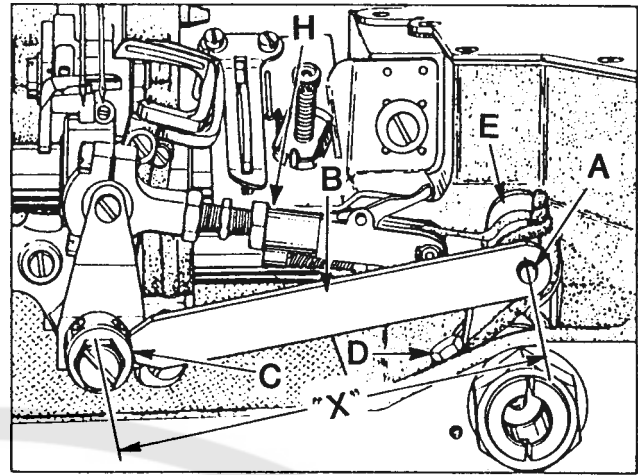
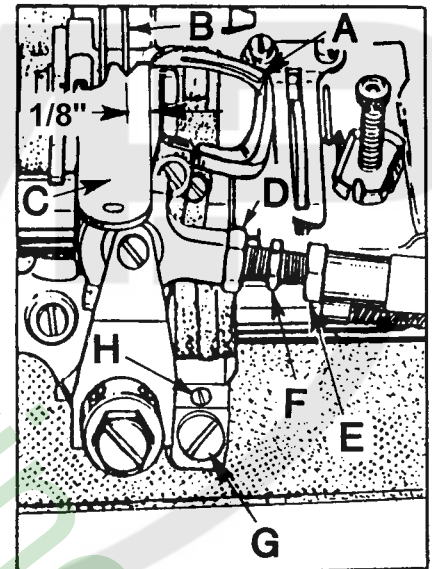

Fig. 6
Fig. 7
Turn handwheel in operating direction until looper is at the extreme right end of its travel. Check location of the center-line of right looper connecting rod bearing using gauge TT35. Place hole in gauge (B, Fig. 6) over threaded stud (A). The left end of gauge should locate against the RIGHT side of looper rocker cone (C). If adjustment is necessary, loosen clamp screw (D), reposition looper driver lever (E) as required and retighten screw (D). If a gauge is not available, the setting can be checked with a scale. "X" dimension is from centerline of stud (A) to centerline of cone (C) which should be $4 \frac{1}{16}$ inch (103.2mm).
CAUTION: After adjusting the looper gauge and looper avoid, there should be shake at both end points of the looper connecting rod while rotating handwheel a full 360° (H, Fig. 6). If bind occurs loosen nuts (D and E, Fig. 7) and reposition strap (H). Retighten nuts.
Insert a new needle, type and size as specified. Using the $\frac{1}{8}$ inch (3.2mm) looper gauge, set the looper (A, Fig. 7) so the distance from the center of the needle (B) to the point of the looper is $\frac{1}{8}$ inch (3.2mm), when the looper is at its farthest position to the right.
If adjustment is necessary, loosen lock screw (G, Fig. 7) and turn stop screw (H) as required. Turning stop screw clockwise sets the looper to the rear and turning it counterclockwise acts the reverse. Holding looper to the front while making this adjustment may prove helpful. Tighten lock screw when setting is obtained and recheck the adjustment.